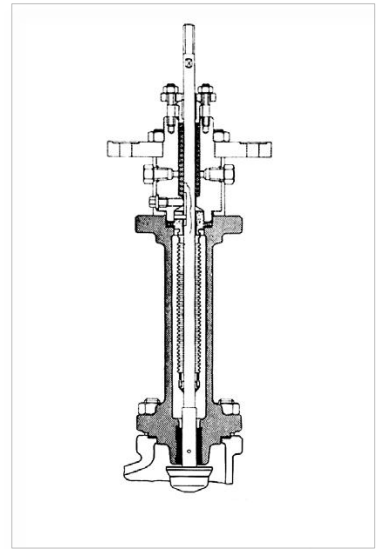

Fig. 7: Bellows seal bonnet
1. Follow the “replacing plug procedure” steps 1 to 5 to remove the complete bellows seal bonnet (Figure 7) and bonnet packing assembly from the valve body.